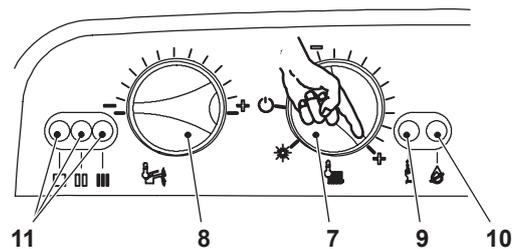

Figure 9.18
- Turn the boiler ON positioning the function selector knob 7 as indicated in Figure 9.18.
- Turn knob 8 as indicated in Figure 9.18.